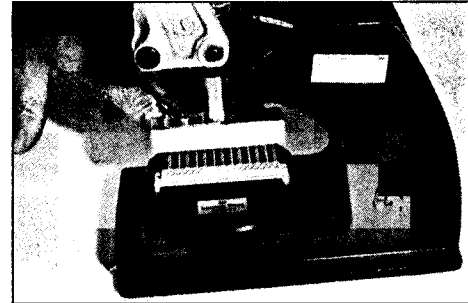

figure 7
6. a) **Plug Connector 3695-0000:** Place connector/ cable subassembly in the locatorplate guide with connector body side down. (fig. 7)